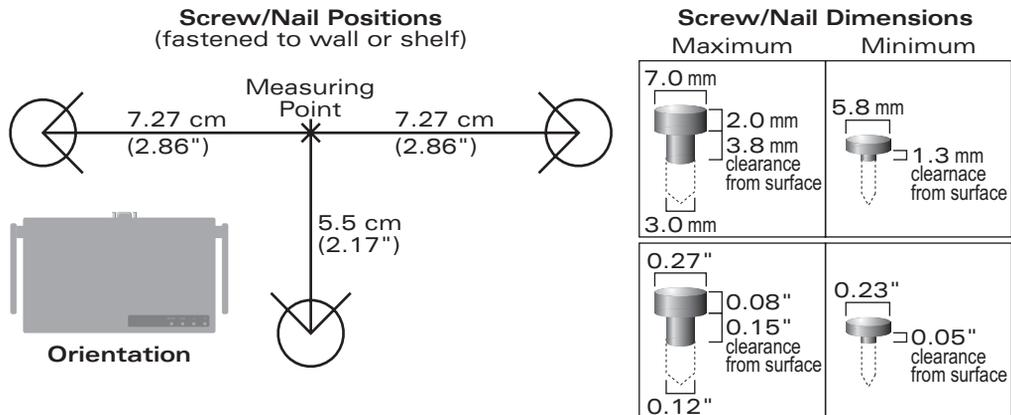

FIGURE 2-3 Mounting Screw Specifications
- 1 Install three screws in the wall or shelf as shown in Figure 2-3: